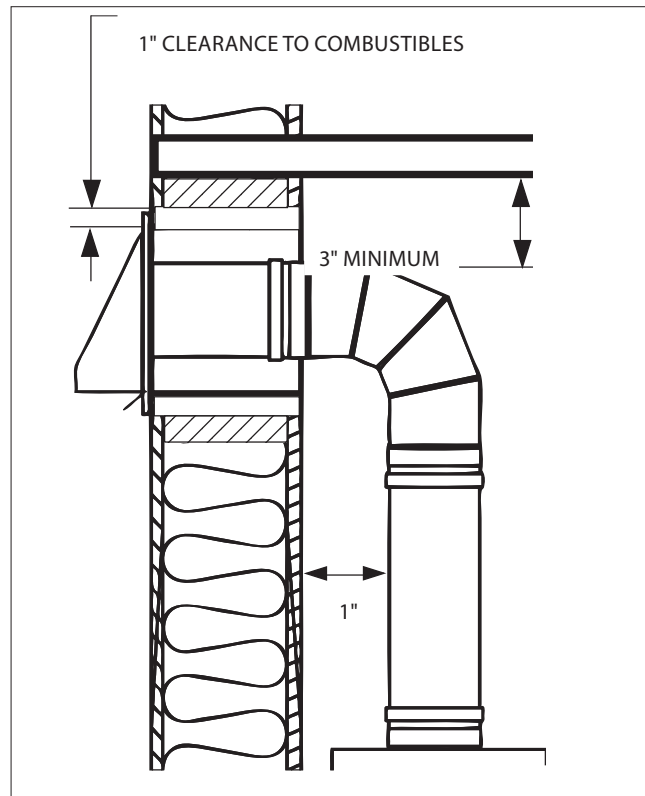

Figure 18
- Proper clearances to combustibles must be maintained over the entire length of the system (refer to Figure 18).